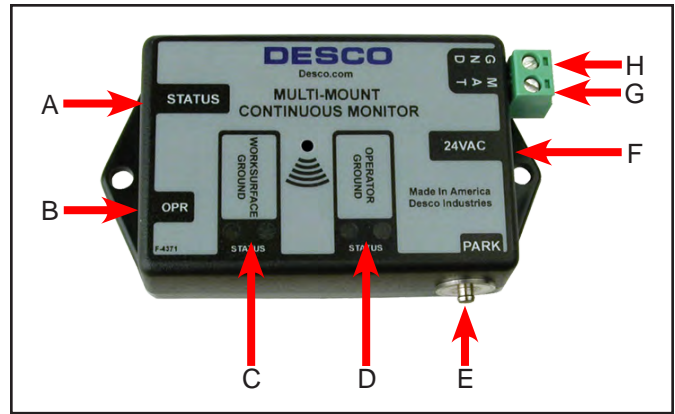

Figure 2. Multi-Mount Continuous Monitor features and components
### Features and Components (See Figure 2)
1. Plug a wrist strap cord, not attached to the wristband, into the monitored banana jack labeled OPR on the side of the unit (See Figure 2). This automatically activates the selected operator channel. The red operator LED should illuminate.